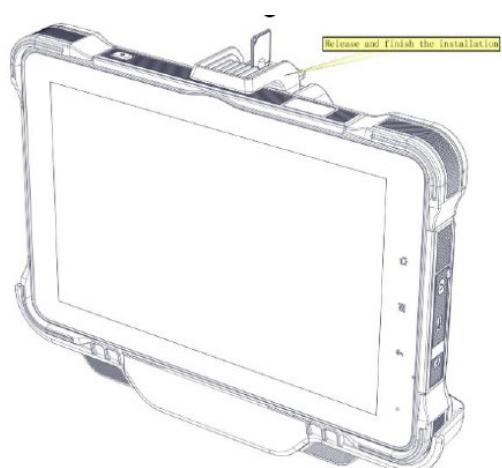

Fig 4-5
5. Release and finish the installation as Fig.4-5 shown.